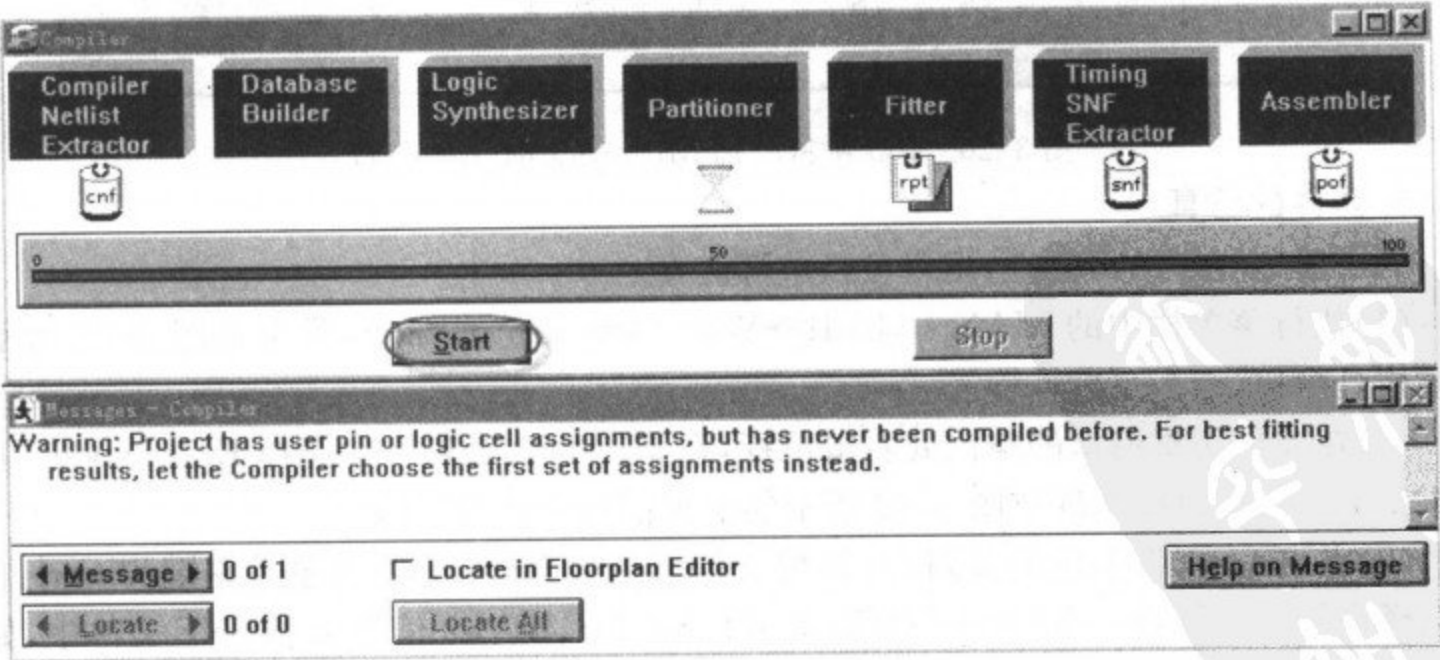

图 3-18 器件的编译
(1)执行菜单栏中的 MAX+plusII→Compiler 命令,这时将弹出如图 3-18 所示的编译命令对话框,单击 Start 按钮,即可编译相关的各项操作。此时可能弹出下图 WARNING 窗口,提示“project has user pin or logic cell assignments, but never been compiled before. For best fitting results, let the compiler choose the first set of assignments instead”,这是因为在管脚指定之前没有 compile,你只要再点 save & compile 就可以了。